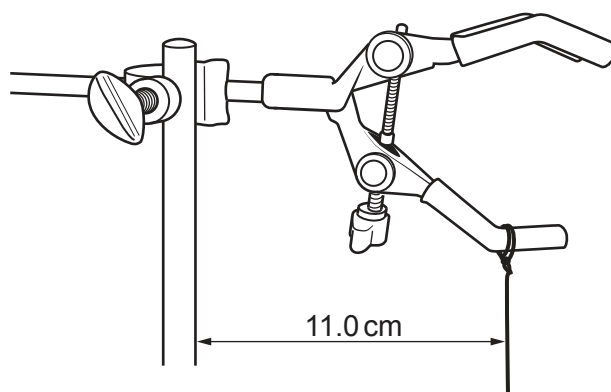

Fig. 2.1
1. One end of the piece of thread should be tied firmly to the centre of the movable claw of the clamp as shown in Fig. 2.1. The clamp should be adjusted so that it is at least three-quarters open. The distance between the edge of the stand and the centre of the thread must be 11.0 cm.
At the changeover the supervisor should ensure that the apparatus is in the configurations shown in Figs. 2.1 and 2.2 with the clamp at least three-quarters open.